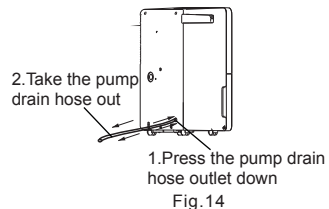

Fig.14
- Press the pump drain hose outlet down and take the pump drain hose out from it (See Fig.14).